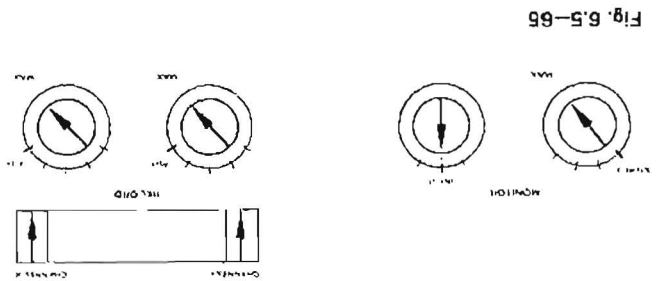

Fig. 6.5-65
- Set controls per fig. 6.5-65.